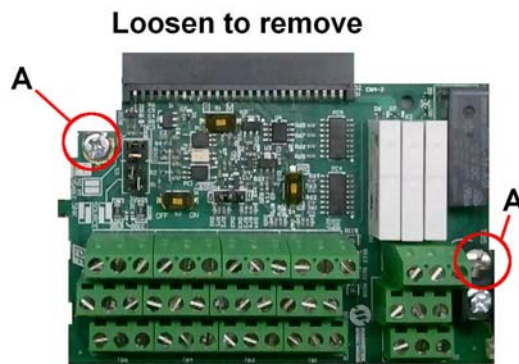

Figure 6-2: Location of Retaining Screws
8. Loosen the two retaining screws (A) pictured in Figure 6-2.
13. Tighten the screws (A) pictured in Figure 6-2.